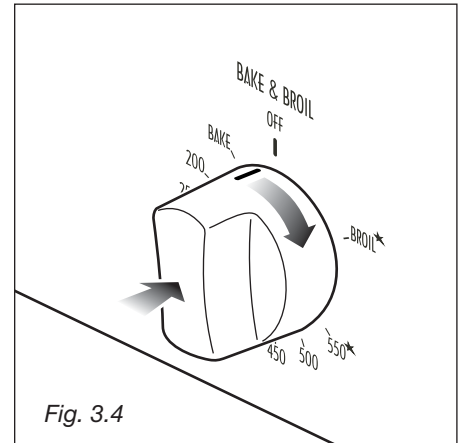

Fig. 3.4
2) Lightly press and turn the thermostat knob clockwise to the **BROIL**★ position (fig. 3.4).